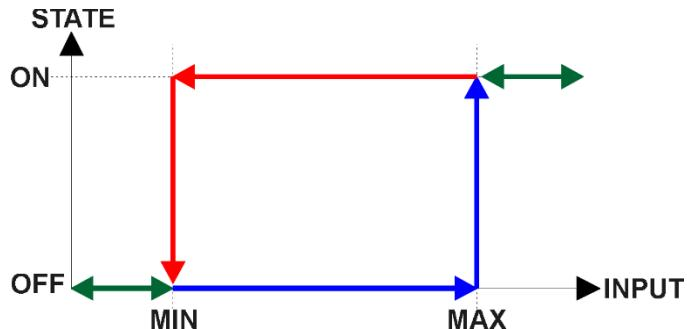

Figure 5 – Analog Input Read as Digital
There is another type of ‘digital’ input that can be selected when 6112h is set to 20 = Analog On/Off. However, in this case, the input is still configured as an analog input, and therefore the objects from the Analog Input (AI) block are applied instead of those discussed above. (This case applies to all the inputs 1 to 4) Here, objects 2010h, 2020h and 2030h are ignored, and 6020h is written as per the logic shown in Figure 5. In this case, the MIN parameter is set by object 7120h **AI Scaling 1 FV**, and the MAX is set by 7122h **AI Scaling 2 FV**.